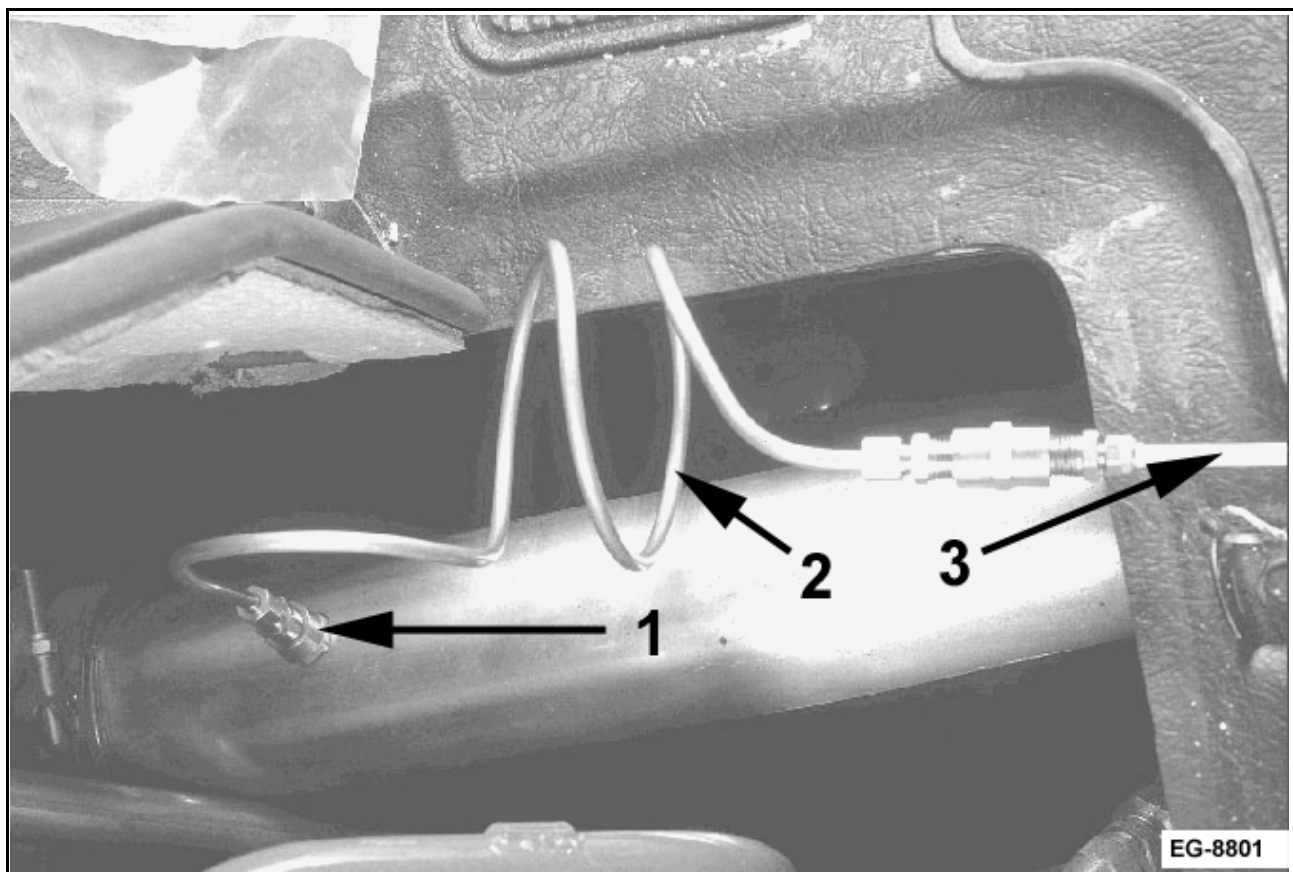

Figure 63 Measuring Exhaust Restriction
1. Drill and braze a 1/8 in NPT male connector onto a straight section of exhaust pipe approximately 3 to 6 in after the bend in the exhaust pipe. See Measuring Exhaust Restriction (See Figure 63, page 124).